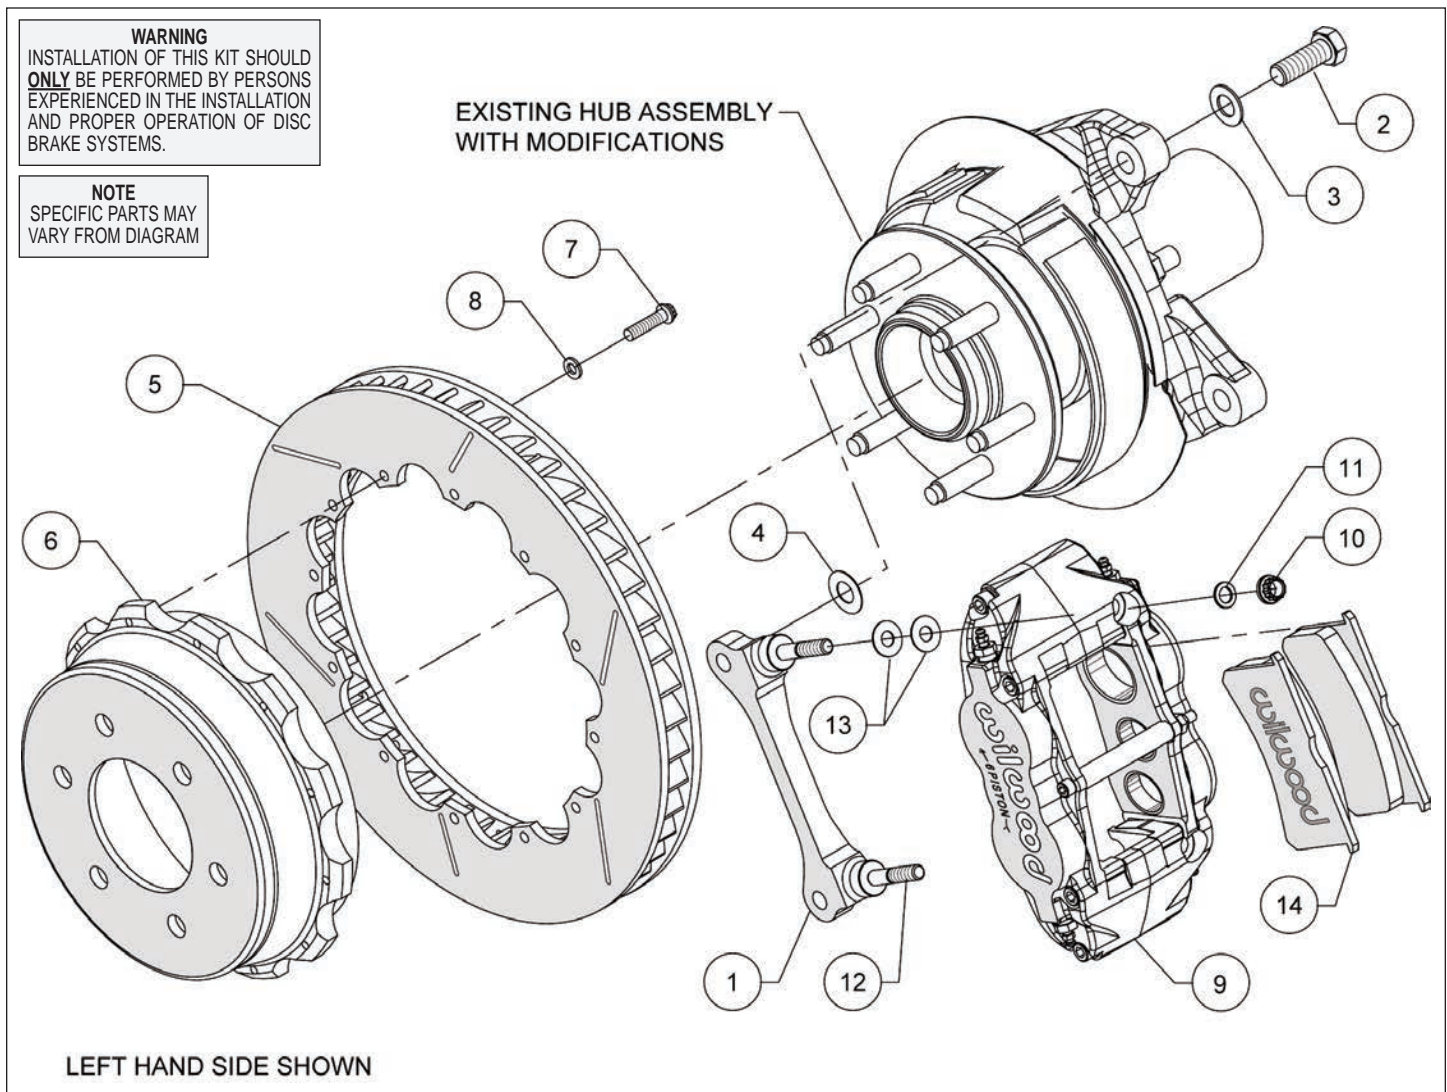
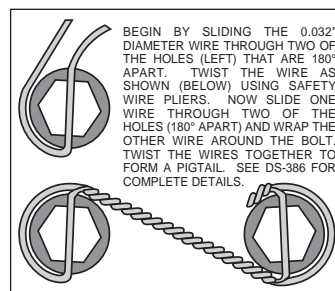

Figure 1. Typical Installation Configuration
Figure 4. Safety Wire Diagram
**Assembly Instructions** (numbers in parenthesis refer to the parts list and Figure 1 on the preceding pages):
- The caliper mount bracket (1) should initially be installed with clean, dry threads on the mounting bolts. Orient the bracket as shown in Figure 1 and Photo 1, and install using bolts (2) and washers (3). Initially place one .029 thick shim (4) on each bolt between the bracket and upright. Temporarily tighten the mounting bolts. **NOTE:** The bracket must fit squarely against the mount bosses on the upright. Inspect for interference from casting irregularities, machining ridges, burrs, etc. Later, after the caliper alignment has been checked, the mount bolts will be secured using red *Loctite*® 271.
- Orient the rotor (5) and the hat (6) as shown in Figure 1 and Photo 2. Attach rotor to hat using bolts (7) and washers (8). Using an alternating sequence, apply red *Loctite*® 271 to the threads, and torque to 140 **in-lbs**. The bolts **must** be safety wired using standard 0.032 inch diameter stainless steel safety wire as shown in Figure 4. Please refer to Wilwood's data sheet DS-386 (available at [www.wilwood.com/Pdf/DataSheets/ds386.pdf](http://www.wilwood.com/Pdf/DataSheets/ds386.pdf)) for complete safety wire installation instructions.
- NOTE:** This kit contains distinct right and left hand calipers that must be mounted in a specific direction, as described below. Lubricate the caliper mounting studs (12) with lightweight oil. Initially place two .035" thick shims (13) on each stud as shown in Figure 1 and Photo 3. Mount the caliper (9) onto the bracket (1) using lock nuts (10) and washers (11), Figure 1. Ensure that the caliper is mounted so that the largest pistons are at the rotor exit end of the caliper, in relation to the direction of rotor rotation. Temporarily tighten the lock nuts and view the rotor through the top opening of the caliper. The rotor should be centered in the caliper, Photo 4. If not, adjust by adding or subtracting shims (4) between the bracket and the upright. Always use the same amount of shims on each of the two mounting bolts. Once the